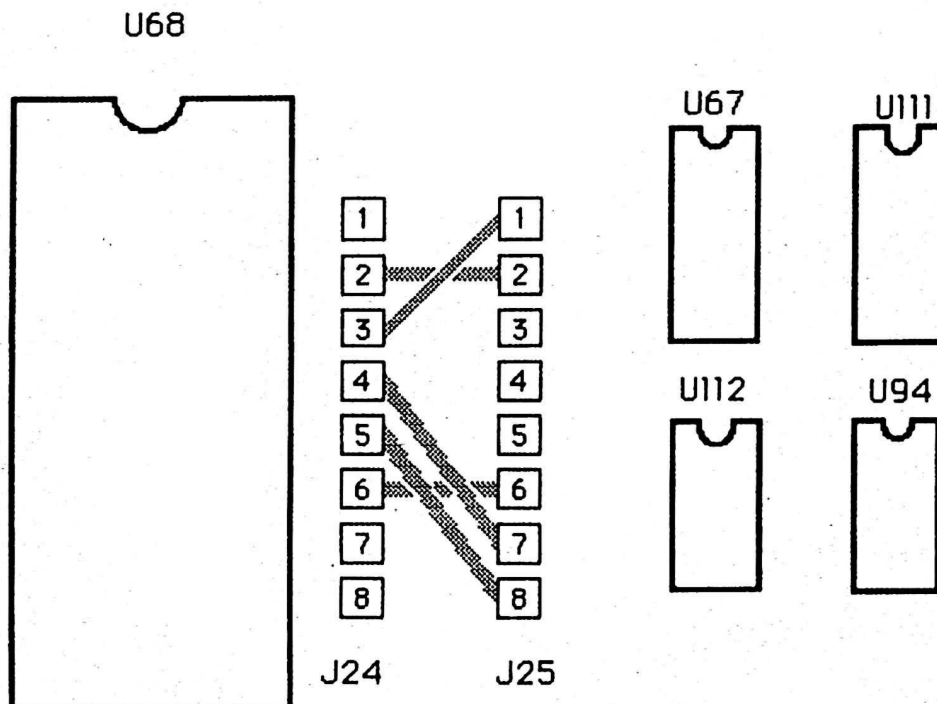

Figure 4-5. Interrupt Controller Jumpers
- (a) On the Dual Processor P. C. Board, look for the 60-Hz Vertical Blanking signal on the 8088 CPU, U14 pin 18. See Figure 4-5, Waveform A for the proper waveform. If the waveform is present, go on to Step 2.
- (c) On the Main Logic P. C. Board, inspect the interrupt jumper matrix (J24, J25) for loose or broken wires, or for cold solder joints. See Figure 4-5 for the proper arrangement of the jumper wires.